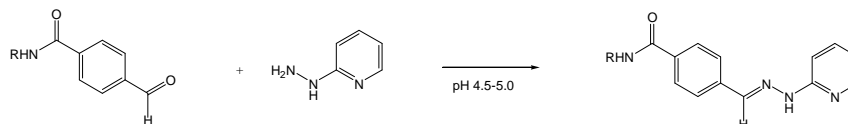

Figure 2: Colorimetric reaction used to quantify number of 4FB moieties on a biomolecule
- The molar substitution ratio (MSR) can be determined using a colorimetric reaction outlined in Figure 2. Addition of 2-hydrazinopyridine to a 4FB-modified biomolecules yields a compound that absorbs at 350 nm.